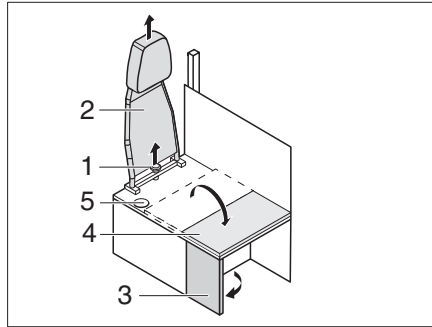

Fig. 199 Conversion drive - living mode
- Unscrew the star screw (Fig. 199,1) and remove the backrest (Fig. 199,2) towards the top.
- Fold out the side panel (Fig. 199,3).
- Fold the seat bench extension (Fig. 199,4) to the side panel.
- ▷ When converting from living to travel mode proceed in the reverse order. Make sure that the safety belt is lead through the opening (Fig. 199,5).